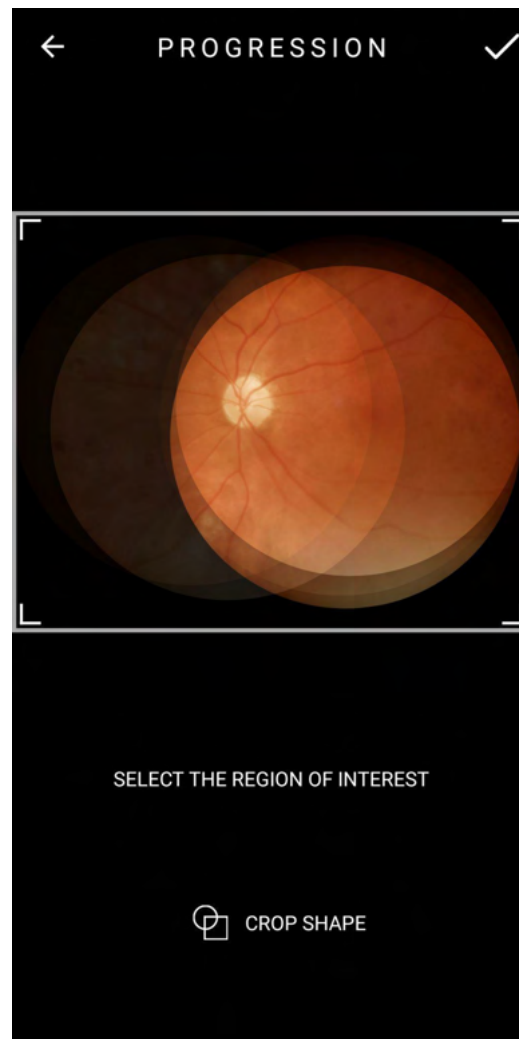

Figure 52: Selection area.
The chosen images will be displayed in contrast, with the darkest regions being common areas of the selected images. In "shape of the cutout", Figure 52 - item 1, it is possible to select whether the format will be square or circular. Place the square that surrounds the image, , in the region you want to cut and confirm with the symbol, Figure 52 - item 2.